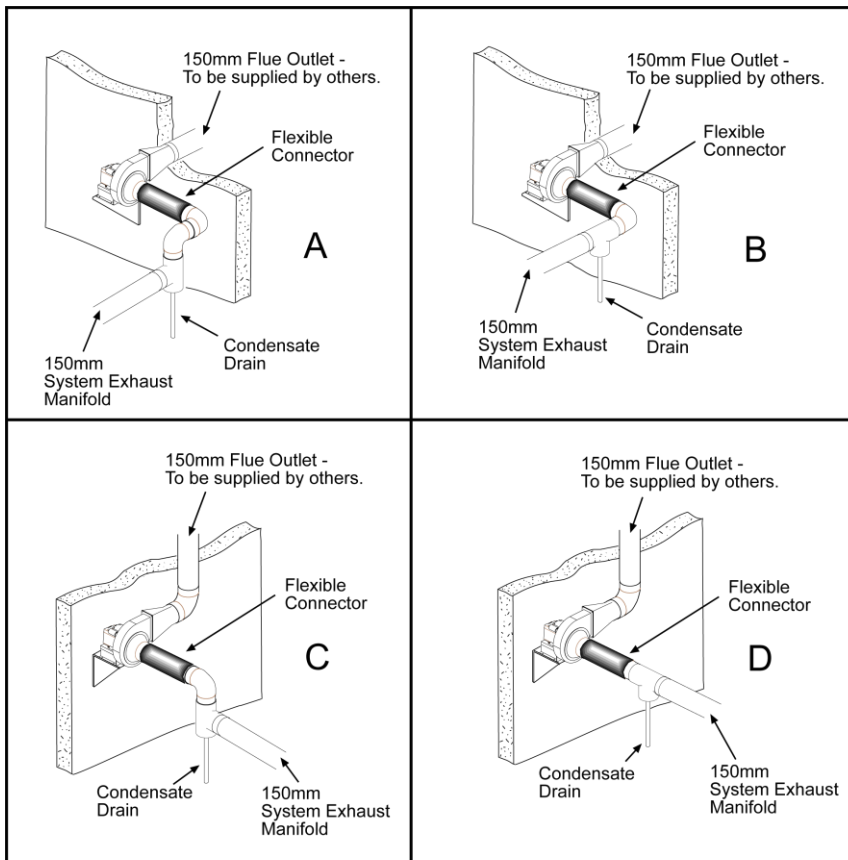

Fig. 5a
3. Arrange the manifold suspension to provide a slight fall in the direction of the exhaust fan in order that any condensate formed will be collected in the condensate trap, which should be fitted immediately before the inlet to the exhaust fan (Fig.5a). Suggested slope of 25mm per 6m length of manifold tube. The condensate trap (15mm PVC or galvanised (not copper)), should be 'U' shape with a minimum depth of 250mm and with the outlet connected to a drain.